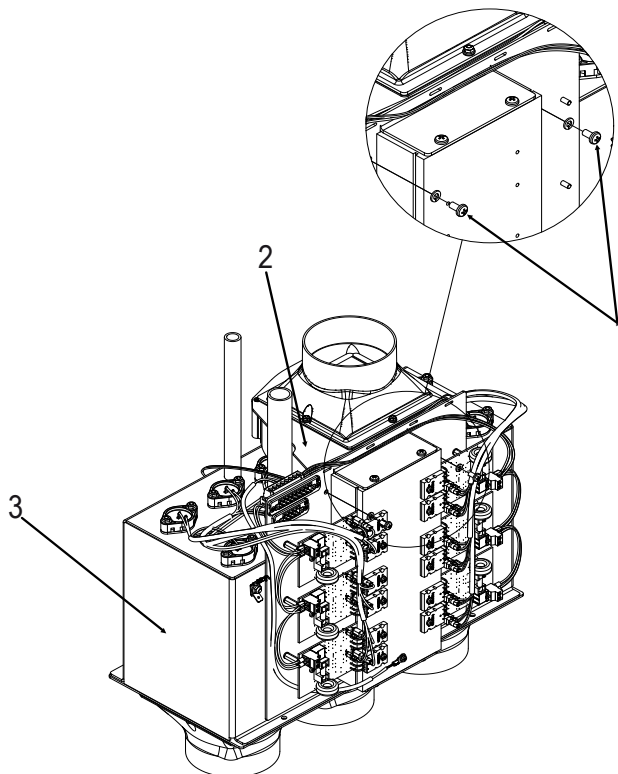

Figure 16: Removal of FAN Assembly
4. Install the fan assembly and secure it to the water reservoir with the two screws. Figure 16 on page 32.